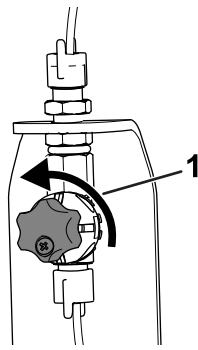

Figure 23
5. For the initial operation, open the foam density adjustment valve 1/8 to 1/4 turn counterclockwise (Figure 23).